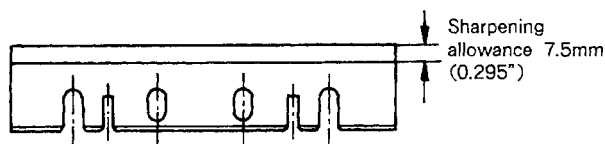

Fig. 26
2. **Blade Sharpening allowance.** The Blades are provided with 7.5mm (0.295") sharpening allowance (Fig. 26).